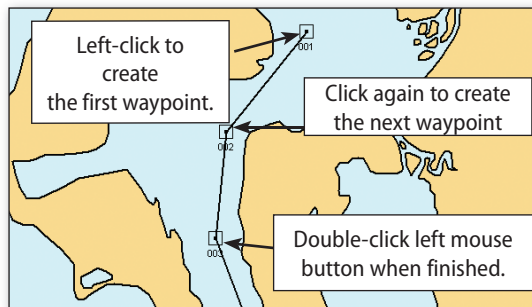

Figure 6.3 - Creating a Route
2. Click on the chart to place the first waypoint (see **Figure 6.3**). As you move the cursor to the next position, a line is drawn from the previous waypoint to the cursor and range/bearing text is displayed.